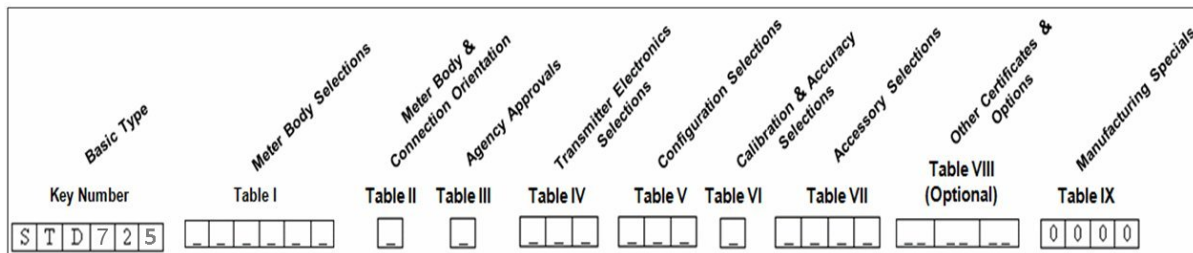

Figure 17 –Typical Basic Transmitter Name Plate Information
The Transmitter nameplate mounted on the top of the Electronics Housing (see Error! Reference source not found. 2 lists the model number, physical configuration, electronics options, accessories, certifications, and manufacturing specialties. Figure 17 is an example of a typical Differential Pressure (DP) or Gauge Pressure (GP) or Absolute Pressure (AP) Transmitter name plate. The model number format consists of a Key Number with several table selections. The Differential Pressure (DP), Absolute Pressure (AP), and Gauge Pressure (GP) name plates are essentially the same. However, the DP provides one additional entry (7 vs. 6 characters) in the Meter Body Selections (Table I) to accommodate the static pressure rating.